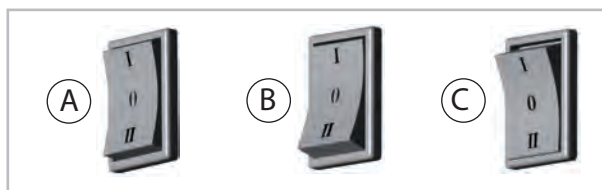

Fig. 5: Operating mode switch positions
1. ➤ Move the operating switch to the "0" (off) position. (see fig. [A] in Fig. 5)
2. ➔ Move the operating switch to the "I" (on) position. (see fig. [B] in Fig. 5)
5. ➔ Move the operating switch to the "I" (Heating) position. (see fig. [B] in Fig. 5)
Set the operating mode switch to the "II" (Ventilate) position (see fig. [C] in Fig. 5).